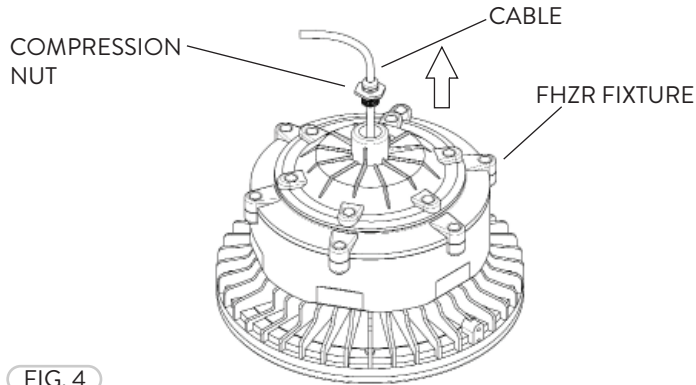

FIG. 4
- 1 The Pendant Mount (Not Included) can be used for all the FHZR Series. Remove the Compression Nut by unscrewing from the FHZR fixture and sliding off the Cable (Fig. 4).